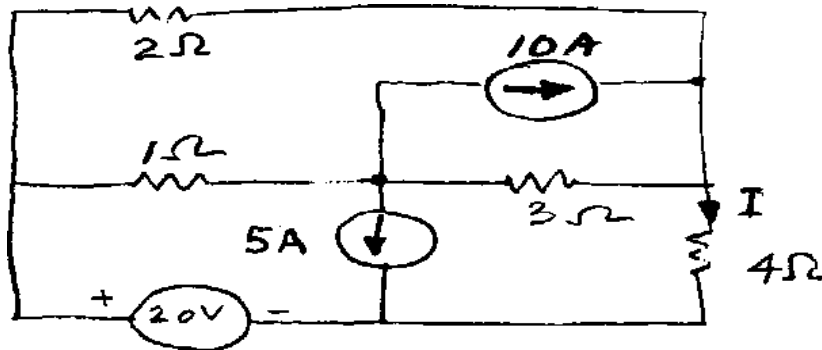

Figure: 2
b) Find the current flowing through 4 ohm resistance shown in figure 2 below using superposition theorem. [7+8]